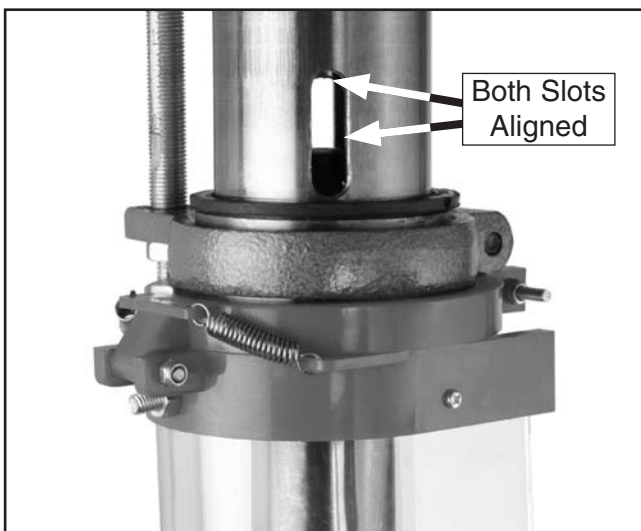

Figure 32. Both drift key slots aligned.
6. Rotate the spindle until the inner drift key slot is aligned with the outer slot, as shown in **Figure 32**. You will see through the spindle when the slot is properly aligned.